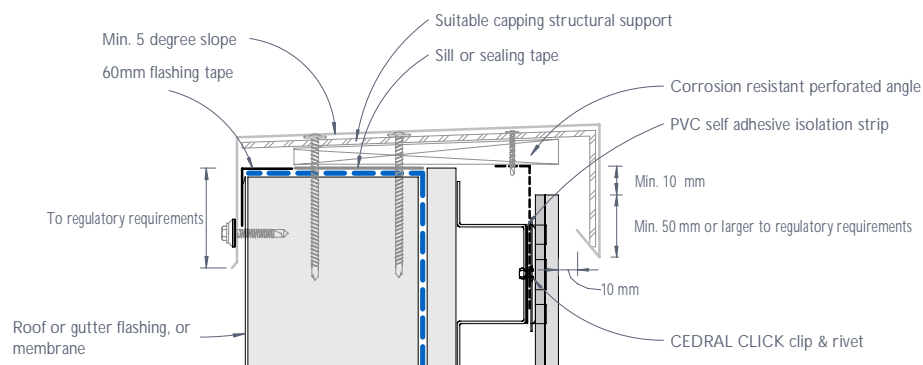

Figure 31: CEDRAL CLICK typical capping detail
- 3) Capping shall be designed and engineered accordingly to provide adequate allowance for ventilation as shown in Figures 31 & 32.